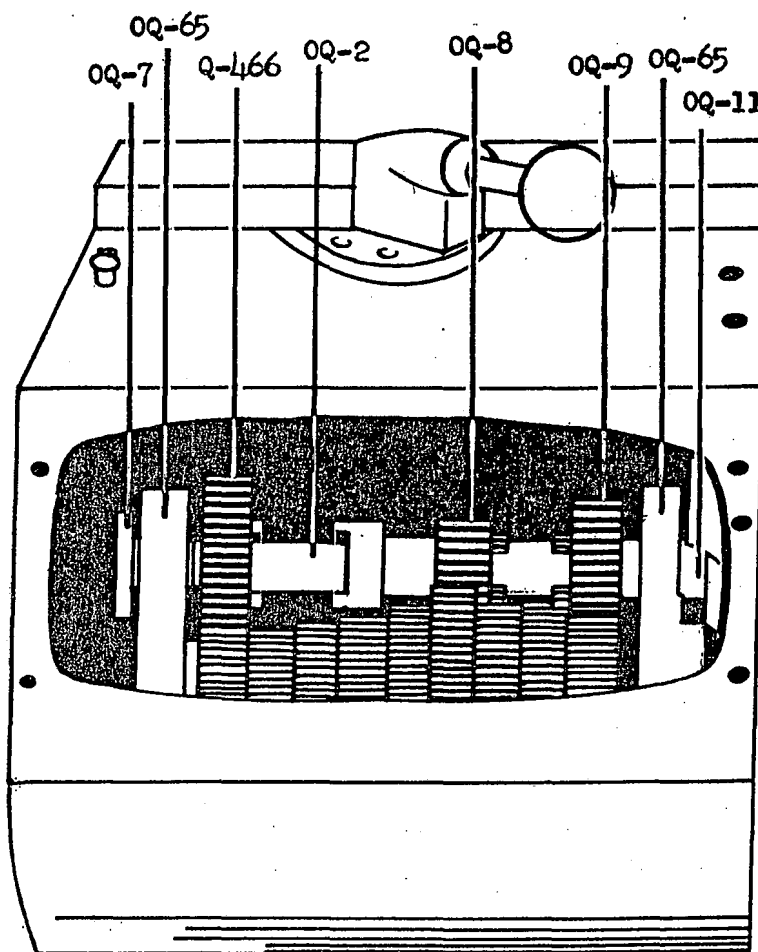

Figure 23 Illustration of the 6300 Series Lathe Gear Box showing parts on the OQ-2 Dog Gear Shaft.
20. Now drive bushing OQ-11 the rest of the way into gear box until it pushes righthand dog gear OQ-9 in line with Q-418 gear, which is on righthand end of OQ-61 shaft in the cradle assembly. See Figure 23.